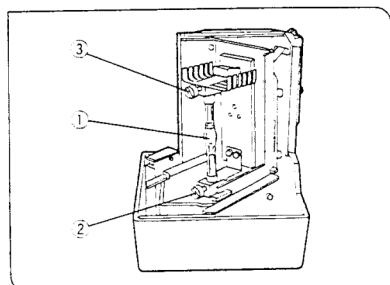

Fig. 6
4. Insert the + pole of the mercury burner ① into the + terminal and tighten the + clamping burner screw ②. Then insert the - pole of the burner into the - terminal, and tighten the - screw ③. (Fig. 6)